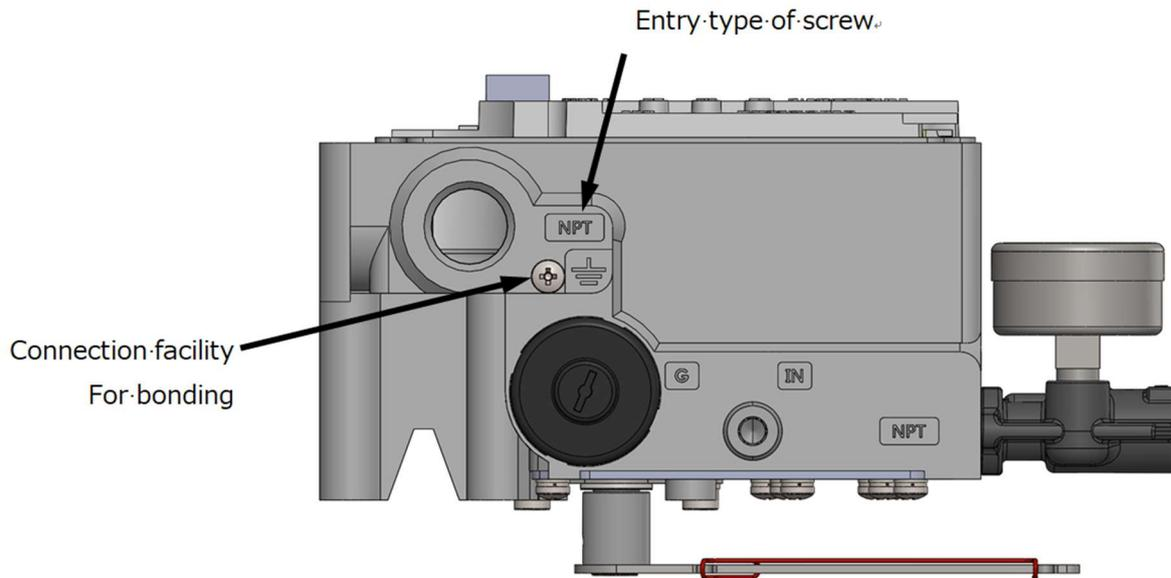

Figure 2.6b Entry type of screw and Connection facilities for bonding
- The width of the connection facilities for a terminal lug is 8.2mm and the fastener for a terminal lug is M4 screw, therefore the dimensions should be  $B < 8.2\text{mm}$  and  $d2 > 4\text{mm}$  in case of ring terminal as Figure2.6b